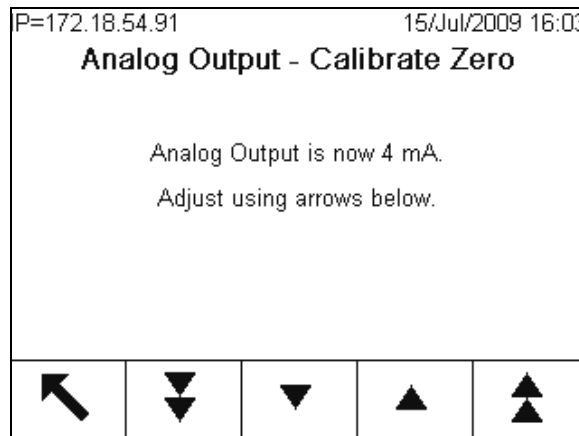

Figure 7-5: Analog Output – Calibrate Zero Screen
8. At the **Analog Output - Calibrate Zero** screen (Figure 7-5), use the softkeys to adjust the analog output signal to be exactly zero on the attached device. The available softkeys are described in Table 7-2.